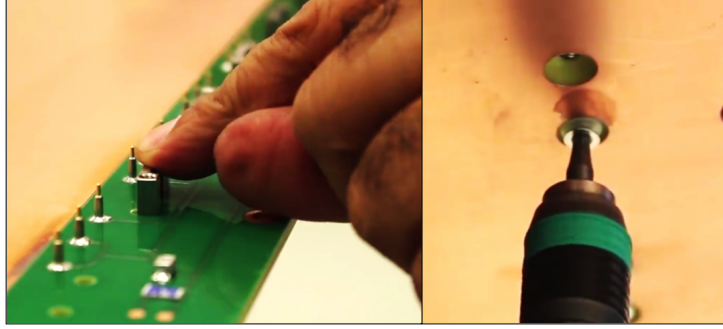

Figure 26: Mounting of the remaining pull-outs.
Step 1: Mount the remaining pull-outs in front of the HV circuit as indicated previously (Fig. 26).